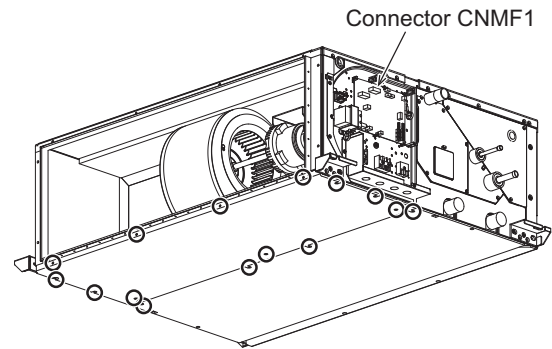

Fig.1
- (1) Disconnect the connector (CNMF1) from the control board.
- (2) Remove the cable through the rubber bush.
3. Removing the bottom plate (Fig.1)